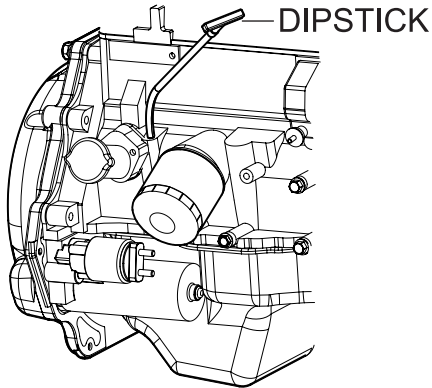

Figure 11. Engine Oil Dipstick Location
2. Remove the engine oil dipstick from its holder (Figure 11).